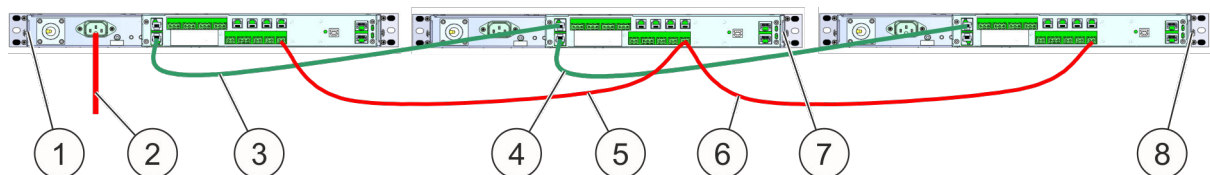

Fig. 54: Energy supply and data line
1. ➤ Connect the mains supply (Fig. 54 /2) of 100 – 240 V/AC to the Master (Fig. 54 /1).
2. ➤ Establish the power supply (Fig. 54 /5) between Master and first Slave (Fig. 54 /7). See also ↪ *Chapter 3.3.7 „Power supply” on page 27.*
3. ➤ Establish the power supply (Fig. 54 /6) between first Slave and next Slave (Fig. 54 /8).
5. ➤ Connect the *CAN bus connecting cable (Master/Slave)* (Fig. 54 /3) between Master and first Slave.
6. ➤ Connect the *CAN bus connecting cable (Master/Slave)* (Fig. 54 /4) between first Slave and next Slave.